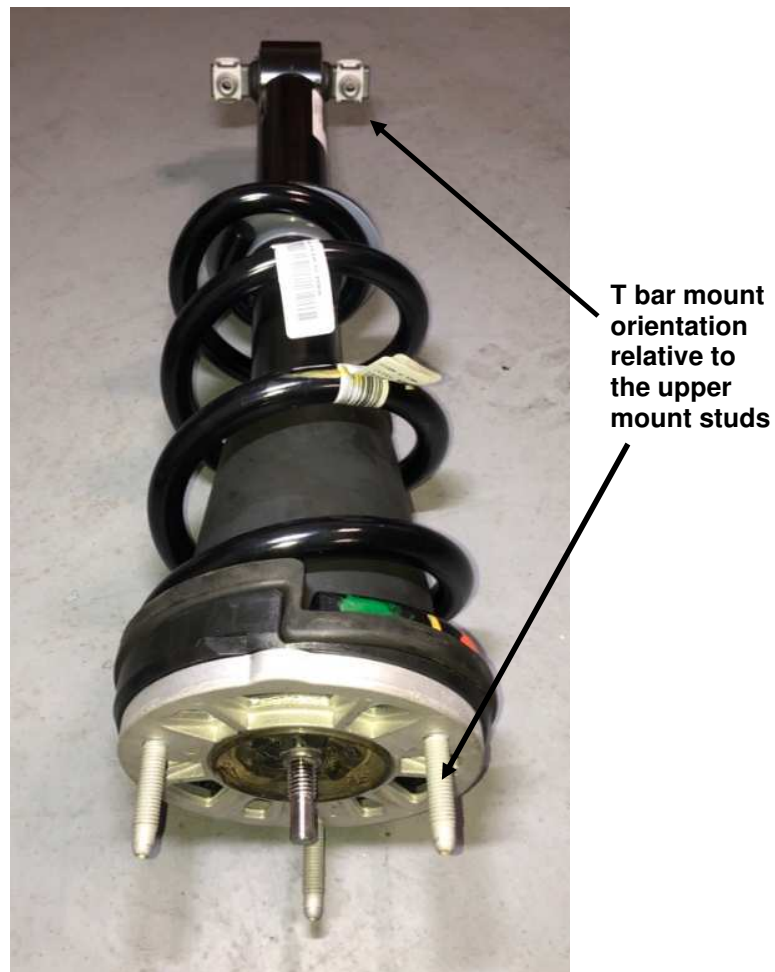

Figure 1: OEM T Bar/spring clocking
- B. Note the clocking of the lower T bar mount relative to the studs on the upper mount as shown in Figure 1 (important for reassembly).
- H. Using an appropriate spring compressor, compress the OEM spring and assemble it with the new Bilstein shock. Ensure that the OEM coil spring is installed in the direction shown only. Refer to Figure 1.
- K. Rotate the shock so the lower T bar mount is aligned with the upper mount studs as noted in step B and shown in Figure 1.